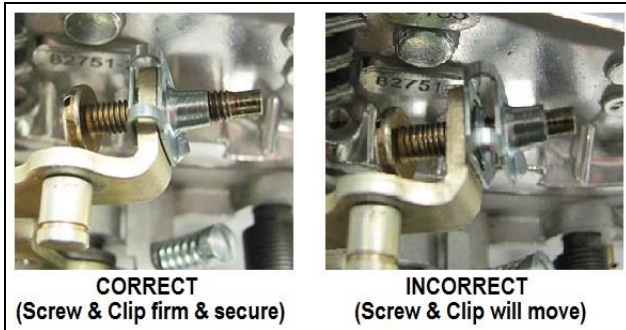

Figure 3—Ford applications
2. Insert the transmission kickdown screw with the black retaining clip on the transmission kickdown lever (**Figure 2**). This assembly must be installed according to the detailed drawing (**Figure 3**).